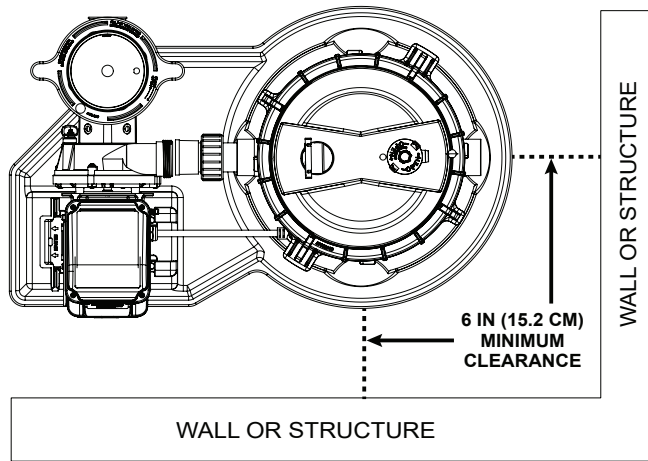

Figure 10.
5. Screw the hose adaptor, item number 711006, into the inlet port of the pump. This is the opening in the sidewall of the pump pot. Use plumber's tape on the threads and tighten no more than one (1) turn past hand tight. Connect the flex hose to this adaptor with a hose clamp and tighten with a screwdriver.
9. Provide sufficient clearance around the filter to permit visual verification that the lock ring is properly installed. See Figure 10.